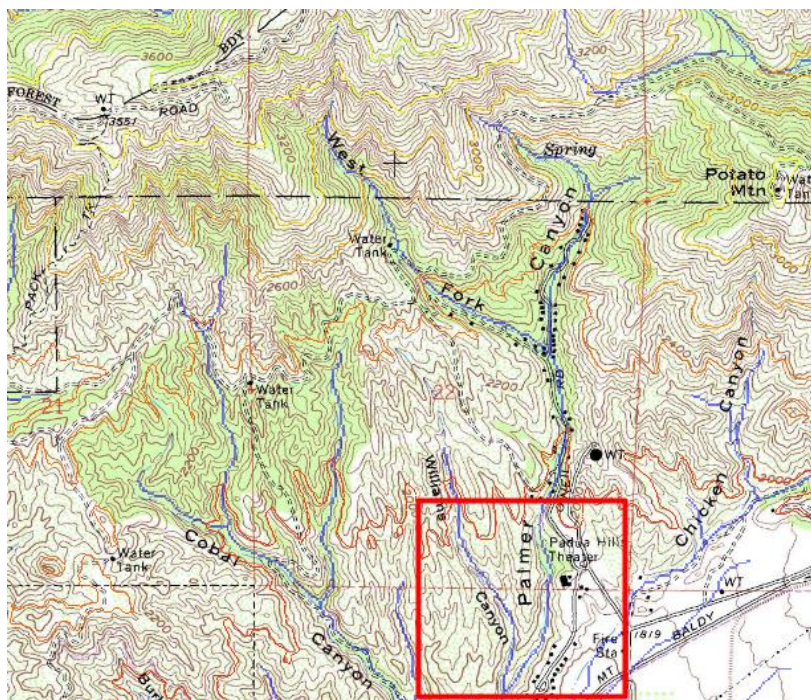

Figure 4-2: Zoom in on the area bounded by the rectangle
19. Use the *Zoom* tool  to view the area shown in Figure 4-2 which shows the confluence of Palmer Canyon and Williams Canyon.